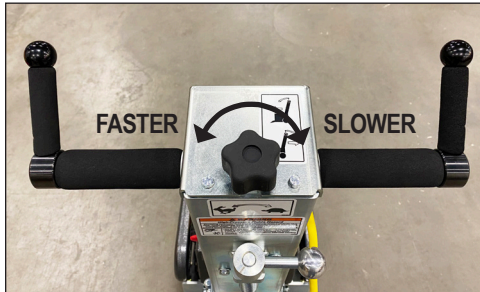

FIG. 9
Speed Control (Figure 9)
3. Turn speed control knob to slowest position (Figure 9).